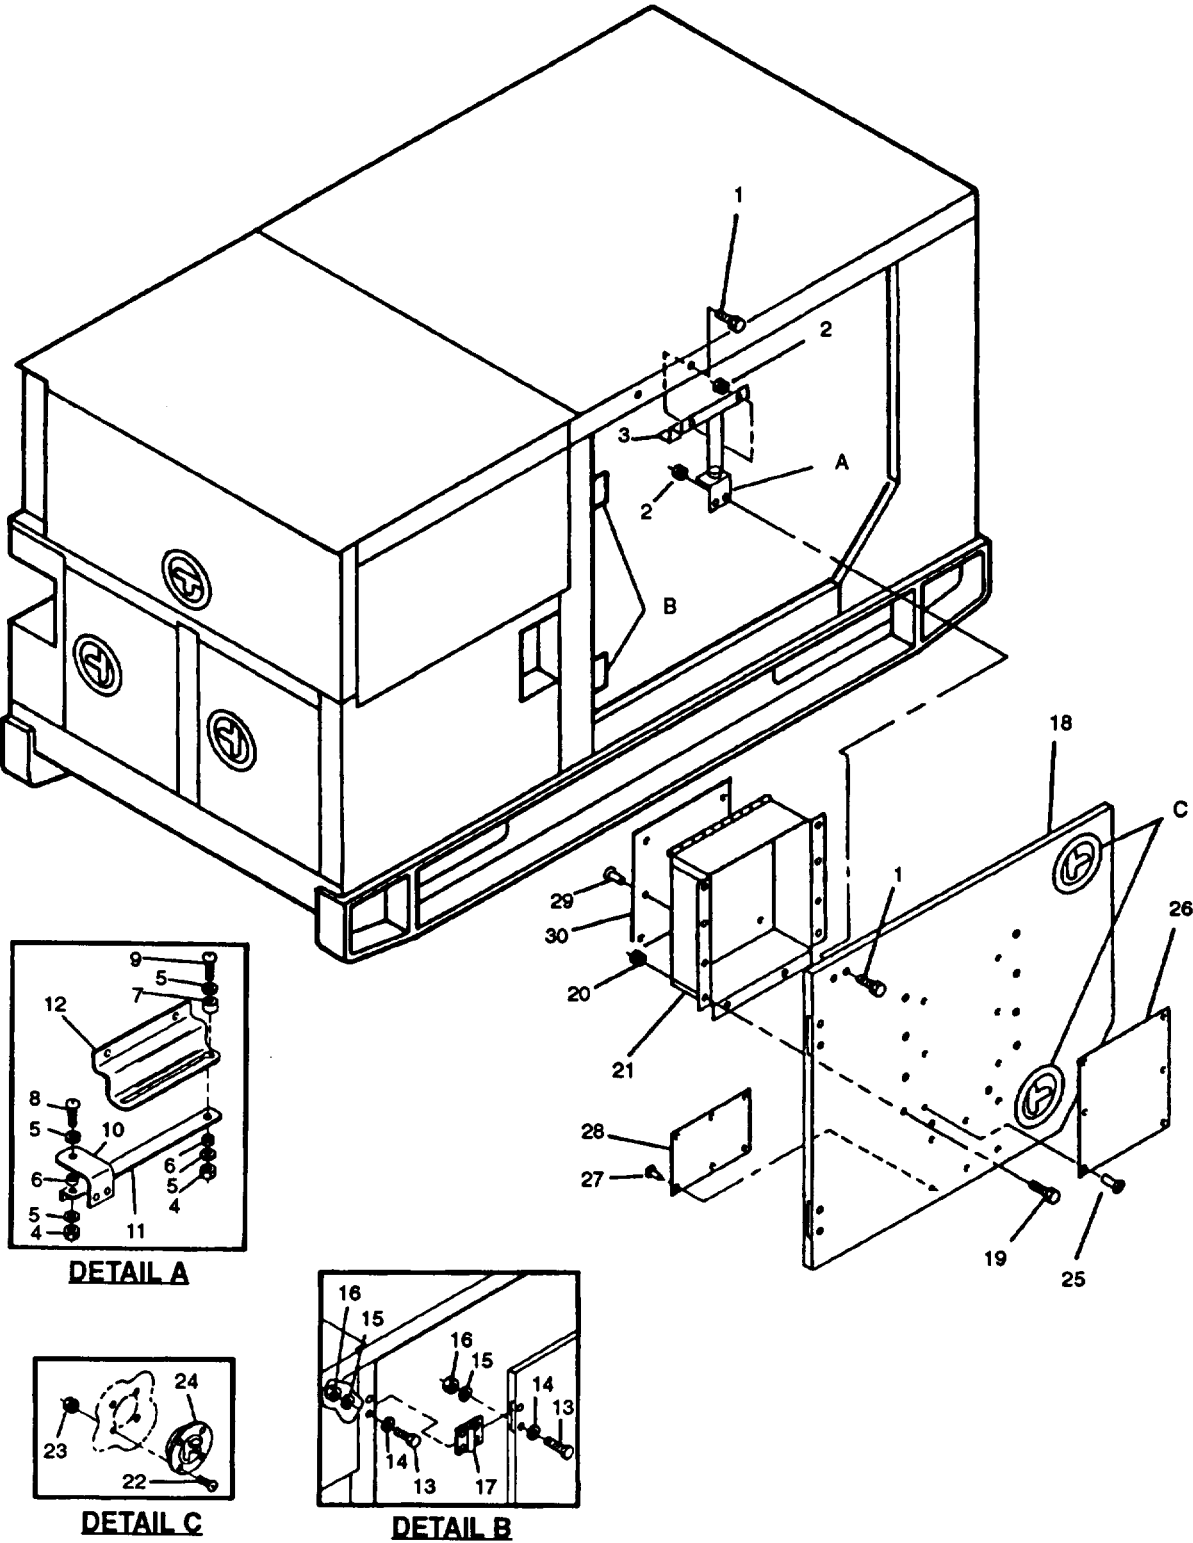

FIGURE 2-6. Generator Set Access Doors
- b. Remove bolts (1, FIGURE 2-6), nuts (2), and hold open mechanism (3) from right side engine access door (18) and generator set.
- c. Remove nuts (4), washers (5), spacers (6) and (7), screws (8) and (9), door holding bracket (10), and door link support (11) from door link flange (12).
- d. Remove bolts (13), washers (14), lockwashers (15), nuts (16), hinges (17), and right side engine access door (18) from generator set.
- e. Remove bolts (19), nuts (20), and document box (21) from right side engine access door (18).
- f. Remove screws (22), nuts (23), and latches (24) from right engine access door (18).
- g. Drill rivets (25) and (27), and remove lifting and tiedown plate (26) and battery connection plate (28) from right side engine access door (18).
- h. Drill out rivets (29), and remove schematic diagram (30) from document box (21).
- a. Install schematic diagram (30, FIGURE 2-6) on document box (21) with rivets (29).
- b. Install lifting and tiedown plate (26) and battery connection plate (28) on right side engine access door (18) with rivets (25) and (27).
- c. Install latches (24) on right side engine access door (18) with screws (22) and nuts (23)
- d. Install document box (21) on right side engine access door (18) with bolts (19) and nuts (20).
- e. Install hinges (17) and right side engine access door (18) on generator set with bolts (13), washers (14), lockwashers (15), and nuts (16).
- f. Install door holding bracket (10) and door link support (11) on door link flange (12) with screws (8) and (9), spacers (6) and (7), washers (5), and nuts (4).
- g. Install door hold open mechanism (3) on generator set and right side engine access door (18) with bolts (1) and nuts (2).